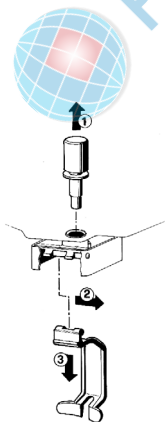

figure 4
8 **Gravity faucet:** extract the piston (1) and then remove the dispensing handle (2-3) (see figure 4).